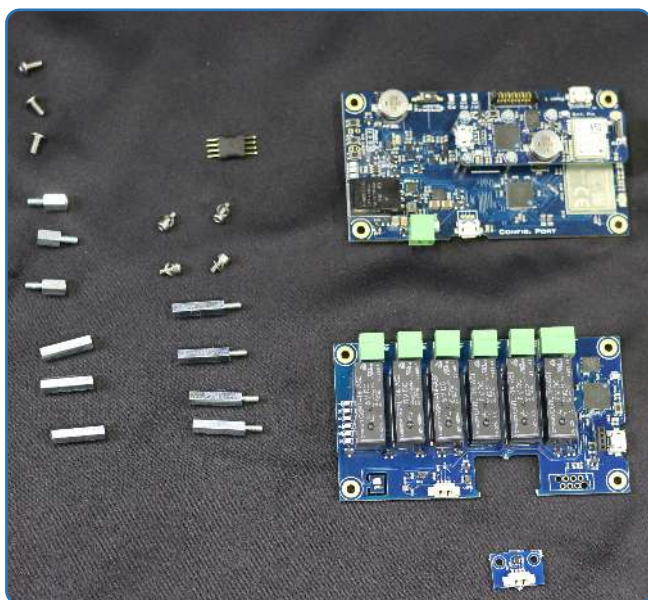

Figure 9: Dissassembling the Yocto-Pictor
2. Split the Yoctopuce in two pieces (see figure 9)